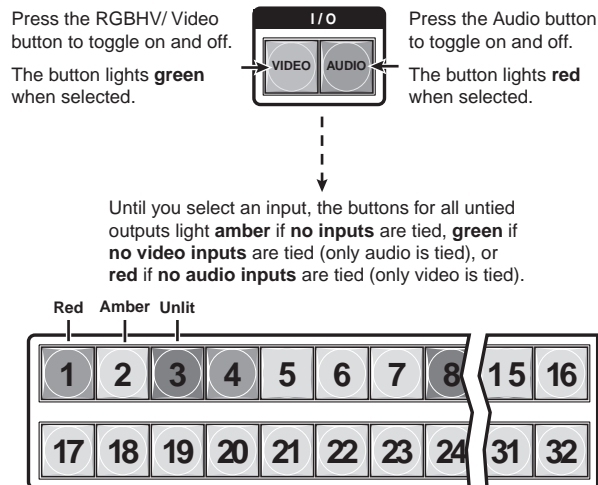

Figure 3-24 — Select RGBHV or video and audio
3. To select both video and audio for viewing, if necessary, press and release the RGBHV (CrossPoint 450 Plus switchers) or Video (MAV Plus switchers) button and the Audio button (figure 3-24).